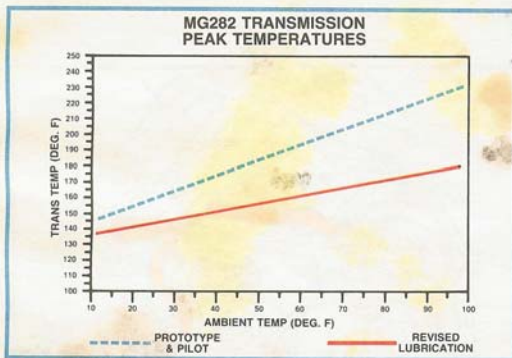

Figure 1-9, Transmission Temperature Comparison.
- Lower transmission temperature, which promotes longer component life (see Figure 1-9).